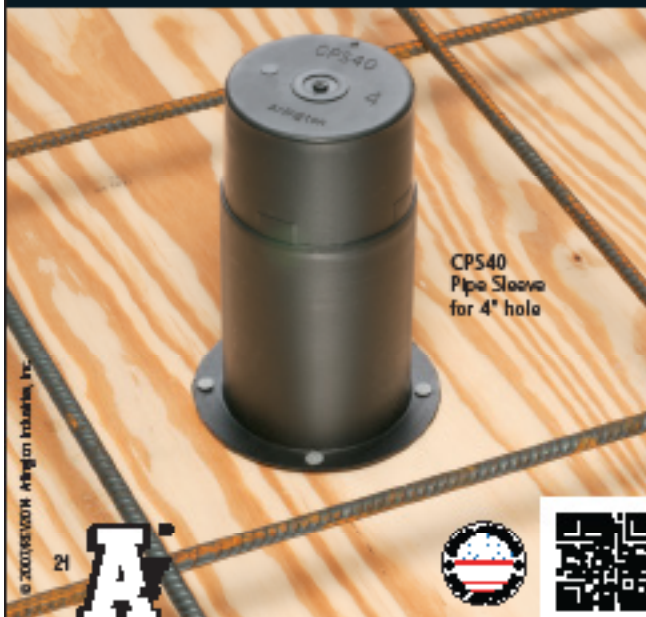

Fig. 14.
(F) Remote Control. A remote-control device (such as a pushbutton for a shunt-trip breaker) is not considered a service disconnecting means (**Fig. 14** on page 46).